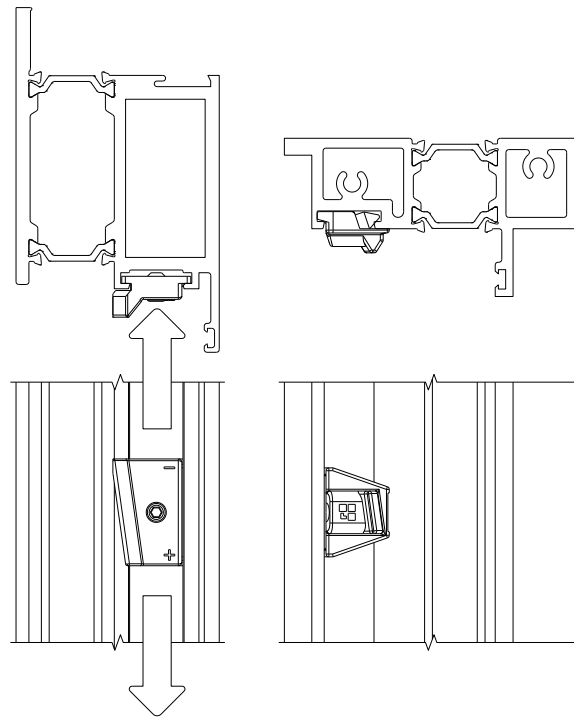

Figure 42
- If the door leaf does not close correctly, adjust the location of the leaf block(s) and the re-tighten the set screw. (Figure 42)